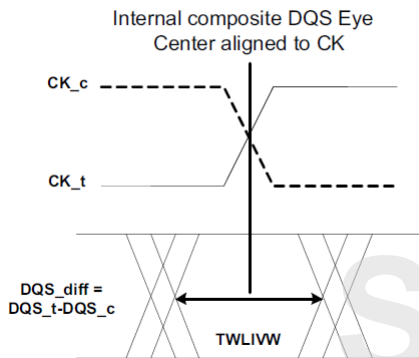

Figure 25. DQS_t/DQS_c to CK_t/CK_c timings at the DRAM pins referenced from the internal latch
- 28) t_{WLIVW} is defined in a similar manner to $tdlVW_Total$, except that here it is a DQS input valid window with respect to CK. This would need to account for all VT (voltage and temperature) drift terms between CK and DQS within the DRAM that affect the write-leveling input valid window. The DQS input mask for timing with respect to CK is shown in Figure 25. The "total" mask (t_{WLIVW}) defines the time the input signal must not encroach in order for the DQS input to be successfully captured by CK with a BER of lower than tbd. The mask is a receiver property and it is not the valid data-eye.